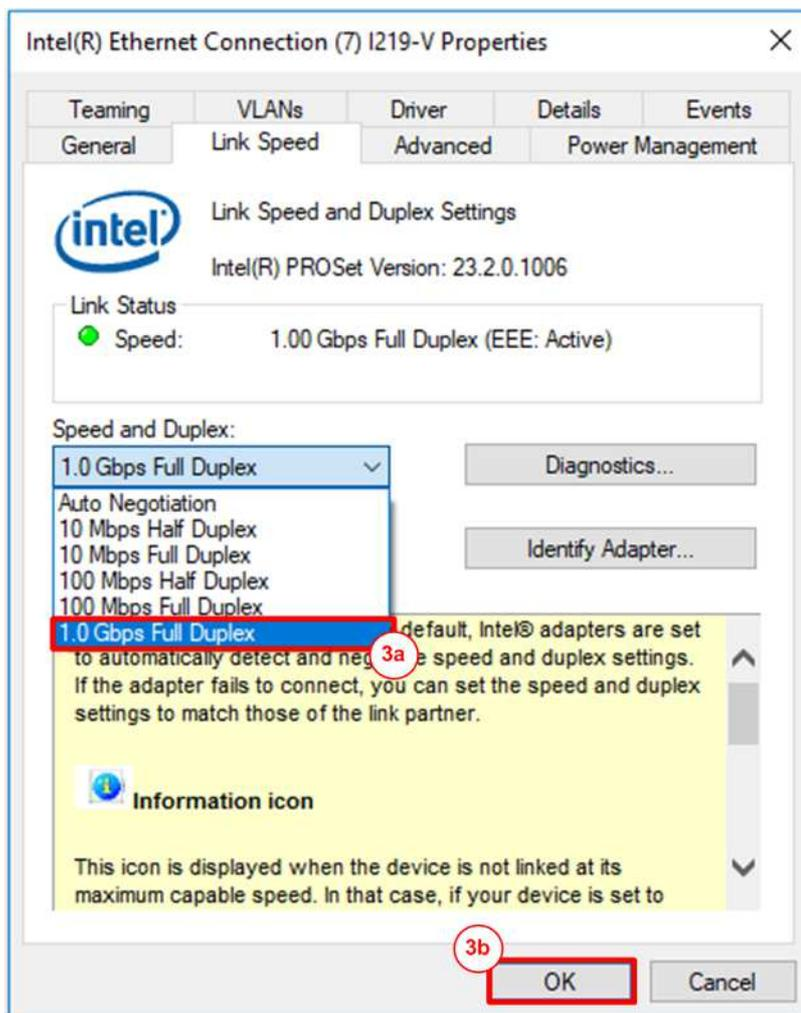

Figure 3-5 Set link speed = 1 Gbps
3) On Link Speed, select “1 Gbps Full Duplex” and click OK button, as shown in Figure 3-5.